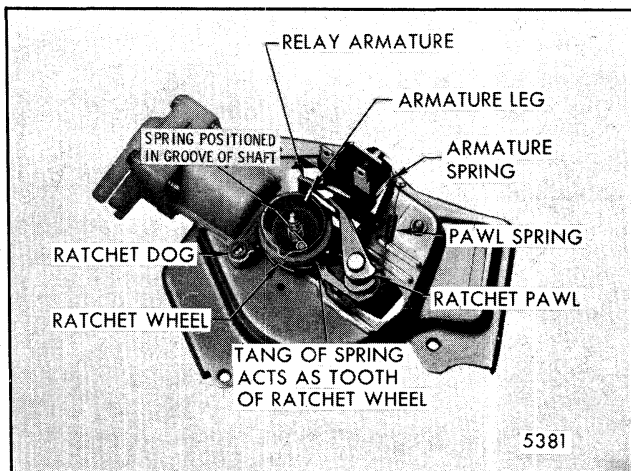

Fig. 2-103-Pump Mechanism
The programming section of the pump mechanism consists of a relay, ratchet pawl, ratchet wheel, and ratchet wheel dog (Fig. 2-103).
1. A leg on the relay armature rides up a ramp located on the outer surface of the ratchet wheel. When the leg reaches the top of the ramp, it moves over the top edge of the ratchet wheel. This action allows the ratchet wheel pawl to re-enter the armature opening preventing further rotation of the ratchet wheel until the next time the relay coil is energized from the washer button. (Refer to Fig. 2-103 for position of armature leg while pump is idling.)